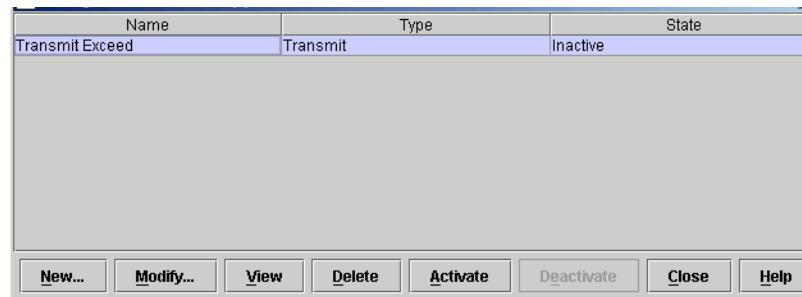

Figure 27: Configure Threshold Alerts dialog box
1. At the **Hardware View** page, choose **Configure > Threshold Alerts**. The Configure Threshold Alerts dialog box displays, as shown in Figure 27.